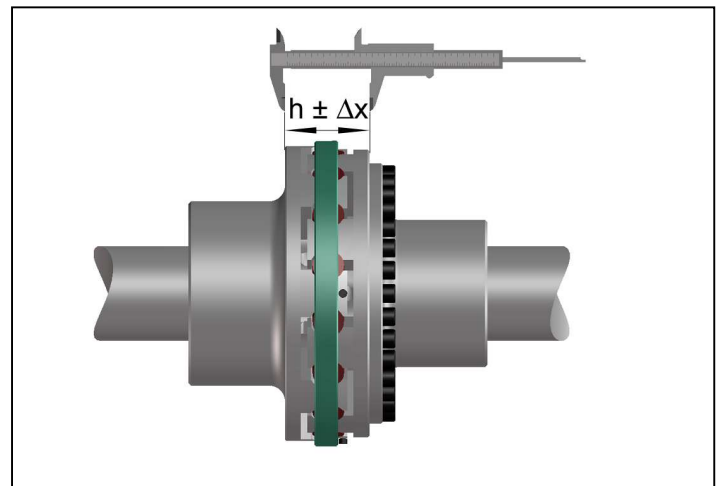

Fig. 9
- Measure the axial flange distance h according to fig. 9.